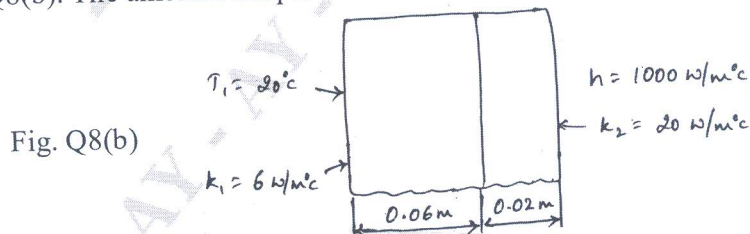

Fig. Q8(b)
- b. Determine the temperature distribution through the composite wall subjected to convection heat loss on the right side surface with convective heat transfer coefficient as shown in fig. Q8(b). The ambient temperature is -5°C . (12 Marks)